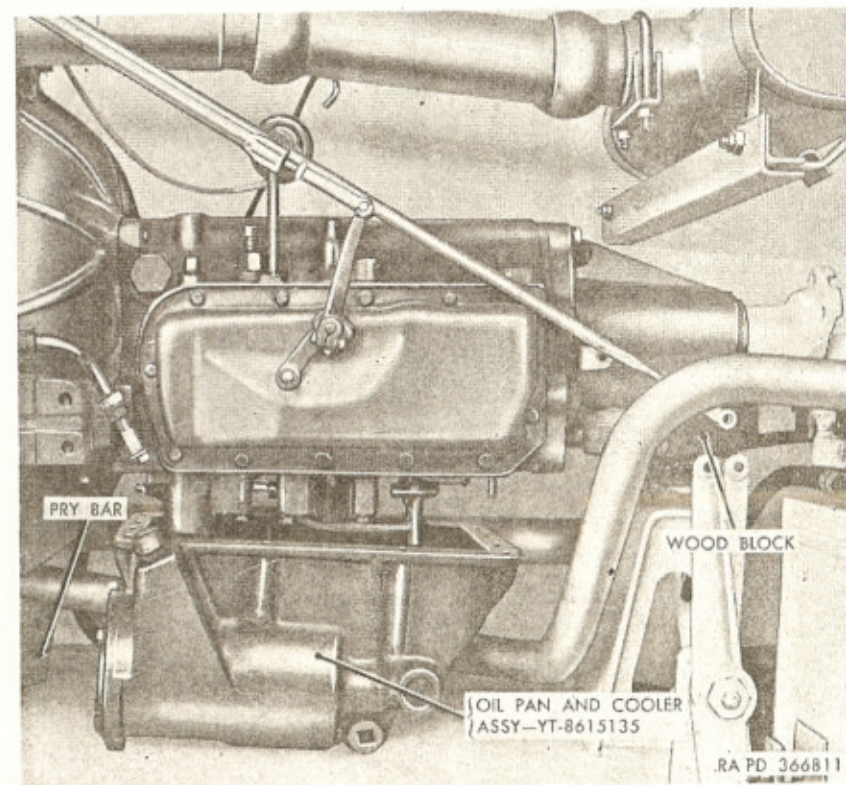

Figure 12. Removing or installing transmission oil pan—301MG (left unit shown).
Note. The capitalized key letters shown below in parentheses refer to figure 11. Oil pan assembly removed is shown in figure 12.
c. Remove magnetic oil drain plug (J) from transmission oil pan (pan is marked OIL) and drain oil from transmission oil pan into clean receptacle.
d. Remove cotter pin and clevis pin attaching throttle control rod (D) to idler lever (F).
e. Remove cotter pins and clevis pins attaching manual control rod (H) to manual control idler lever (G) and transmission shifting lever (B); then remove rod assembly.
h. Unscrew oil cooler line nuts (A) at both sides of transmission oil pan; then pull lines free from connectors.
j. At propeller shaft universal joint (E), straighten tabs on two locking plates; then remove four cap screws and locking plates.
l. At transmission oil pan, remove 10 bolts, 2 stud nuts, and 12 copper washers. Lower pan from studs and permit to rest on floor of engine compartment (fig. 12).
m. Use wooden pry bar under flywheel housing cover and lift transmission approximately 2 inches so that wood block (fig. 12) can be placed under transmission at rear mounting.
c. Position transmission water lines at each side of transmission oil pan; then firmly tighten oil cooler line nuts (A).
d. Using pry bar under flywheel housing cover, lift transmission sufficiently to remove wooden block at rear mounting (fig. 12). Aline rear mounting bolt holes as transmission is lowered.
g. At propeller shaft universal joint (E), install two locking plates and four $\frac{3}{16}$ x $1\frac{1}{16}$ cap screws. Tighten cap screws to 33 to 43 pound-feet torque; then bend tab of locking plate against flat of screw heads.
j. Connect throttle control rod (D) to throttle control idler lever (F), using clevis pin and cotter pin.